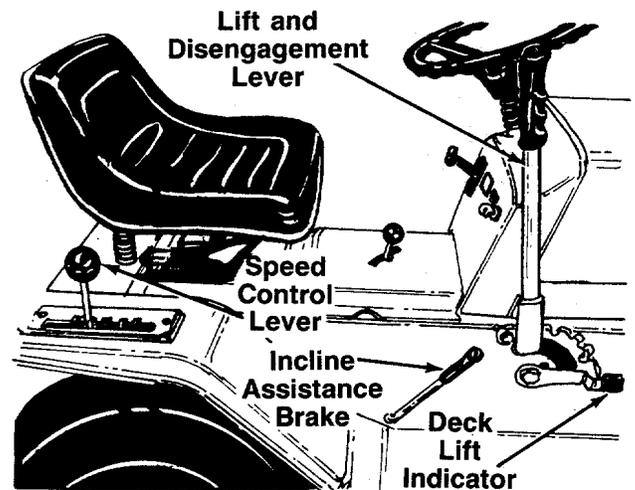

FIGURE 9.
The speed control lever allows you to regulate the ground speed of the lawn tractor. See figure 9. To select the ground speed, depress clutch pedal. Push speed control lever outward and move backward to slow lawn tractor, move forward to increase speed. When desired speed has been obtained, release lever in that position. Whenever clutch is engaged, unit will automatically go to the pre-set speed.
When stopping on a hill, hold the incline assistance brake lever back while you release the clutch-brake pedal until the lawn tractor begins to move, then release the lever. This lever permits smoother starts and clutch engagement by holding the tractor during the brake release/clutch engagement operation. See figure 9.
The lift and disengagement lever is used to raise and lower the cutting deck. Pulling it all the way back and locking it disengages the blades. The lift and disengagement lever **must** be in the disengaged position when starting the engine, when shifting into reverse or if the operator leaves the seat. See figure 9.
The deck lift indicator marks the position being used for the lift lever. Select the lift lever position desired, press the indicator lever outward, move it to the position immediately below the lift lever and release the indicator lever. See figure 9.
3. Place the lift and disengagement lever in the DISENGAGED position. See figure 9.